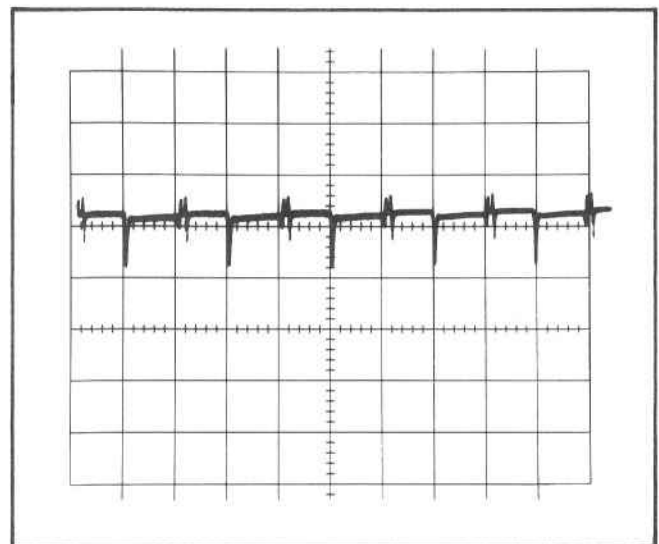

Fig. 5-4. CRT display showing effect of exceeding common-mode dynamic range limit (step 18).
d. Increase the output amplitude of the generator signal. The display should not "break up" (see Fig. 5-4) until the signal amplitude is at least 30 volts peak to peak.